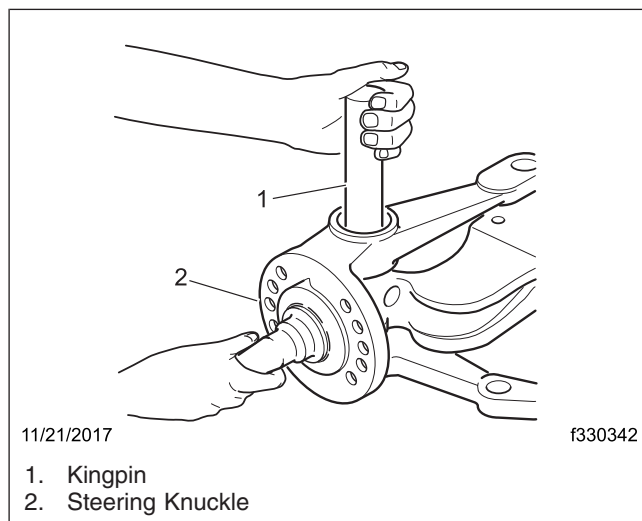

Fig. 19, Installing the Kingpin
24. Install the kingpin from the top with the notch and draw key hole aligned. Hand start the pin in the bushing. See Fig. 19.